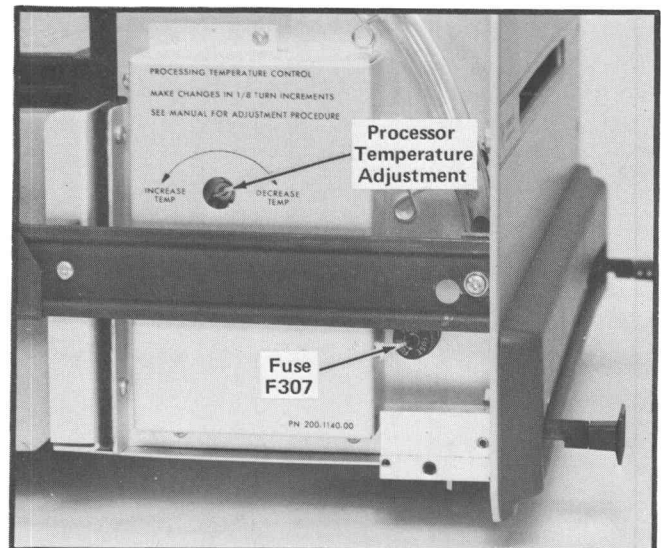

Fig. 5-10. Location of processor Processing Temperature Control.
c. ADJUST—The processor temperature adjustment (Fig. 5-10) in small increments until the unexposed areas of the paper have a very light gray background.